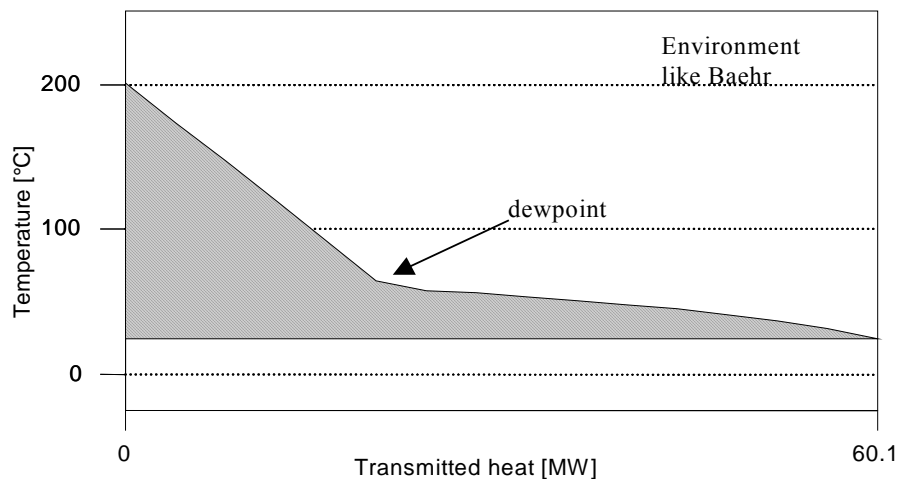

Figure 2: The Q,T diagram
4. As said before, not only the table of the energy balance shows values of the heat loss to the environment but also the Q,T-diagram of the stack does. Because the transmitted heat in the stack is exchanged with the environment it can be considered as an energy loss. And therefore, the transmitted heat on the x-axis of the Q,T-diagram indicates the amount of the energy loss of the stack into the environment. A plot of the Q,T diagram is shown in figure 2.
The difference in the higher and lower heating value depends on the phase (liquid or vapor) the water is in. Consequently, the difference between the higher and the lower heating value is equal to the evaporation heat of water at the environment temperature. In this example the environment temperature is set on 25° C which can also be seen in figure 2 where the bottom line of the gray area is situated at this temperature.